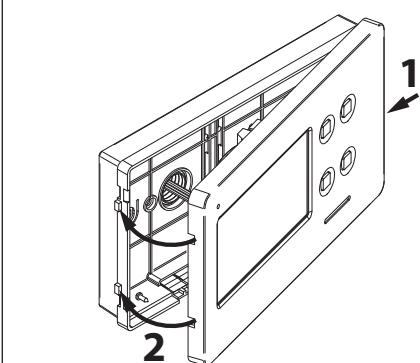

Fig. 7
- Once testing is complete and all the necessary adjustments are made, close the unit as shown in Fig. 7: first hook in the right part and then the left part until you hear a "CLICK!".